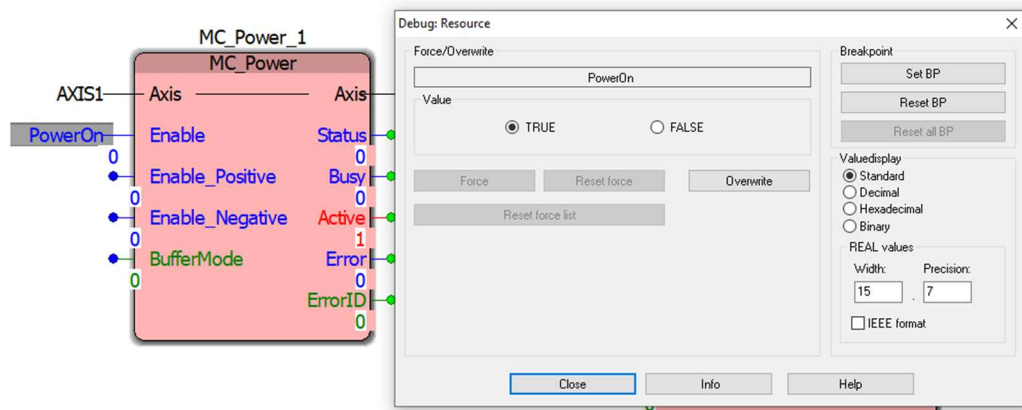
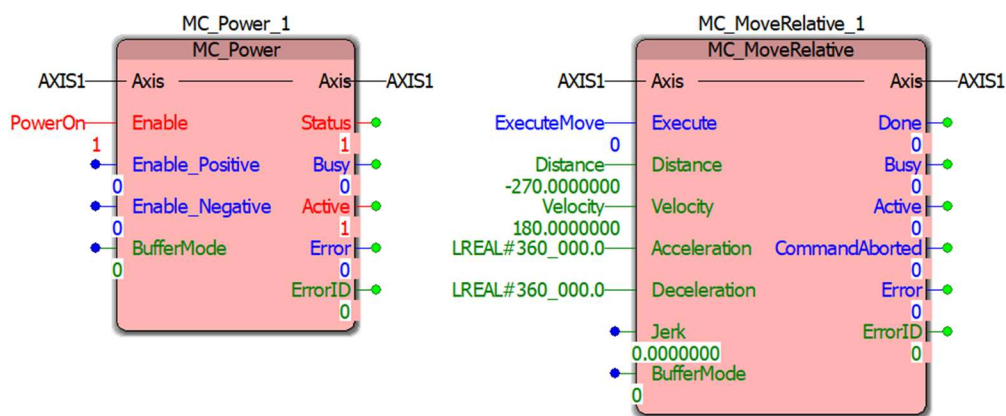

Figure 17: Enabling MC_Power
Figure 18: MC_Power Enabled
- Double-click 'PowerOn' and once in the window in Figure 17, hit Overwrite to change the value so that the blocks look like they do in Figure 18.